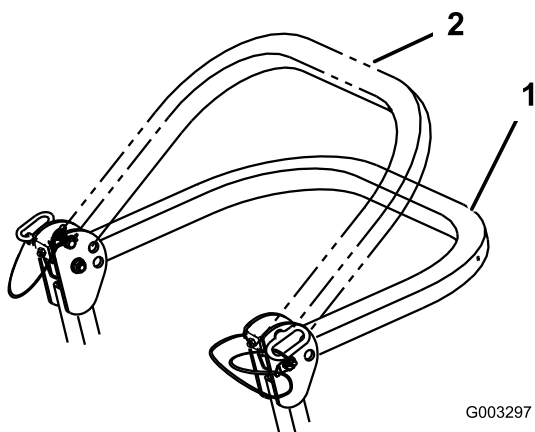

Figure 6
2. Lower the roll bar to the down position. There are two down positions. See Figure 6 for the positions.